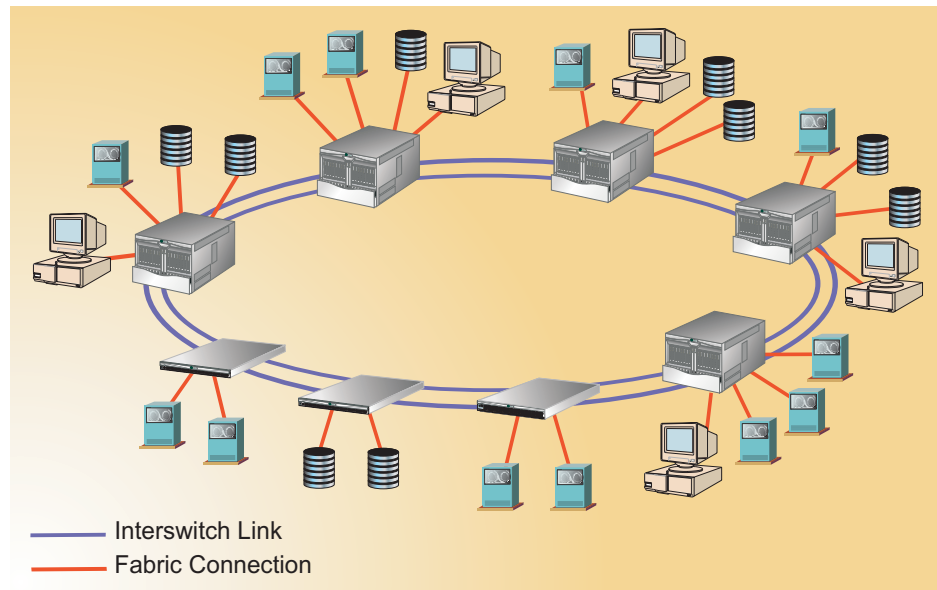

Figure 37: Ring fabric
Figure 37 illustrates a ring fabric topology.
- **Resilient single fabric** — Directors and switches are connected to form a single fabric, but no single point of failure can cause the fabric to fail and segment into two or more smaller fabrics. A ring fabric topology (Figure 37) illustrates this design.